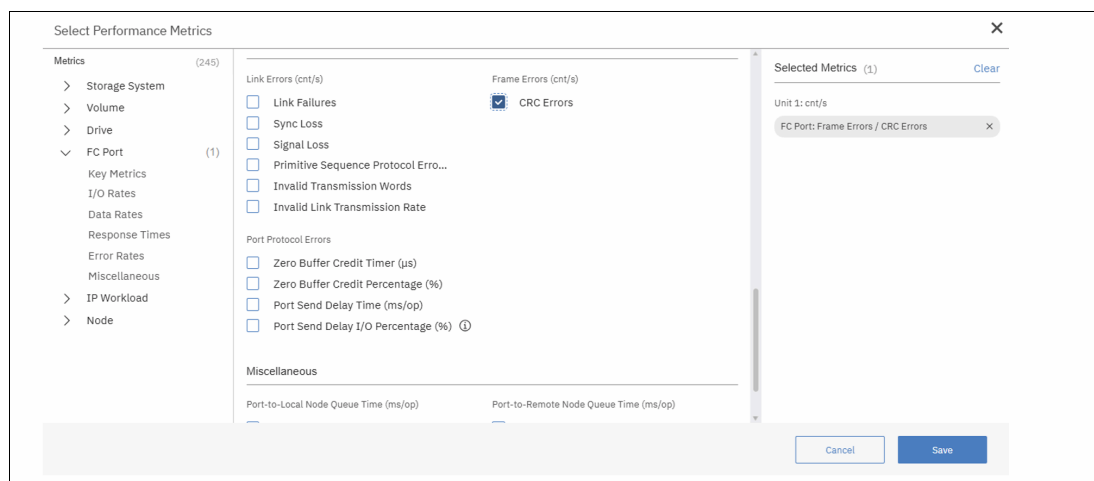

Figure 7-11 Selecting metrics
4. Click **Add Metrics**. A window similar to Figure 7-11 opens. Here you can select the metrics that you want to add to the alert. It is possible to select multiple metrics.